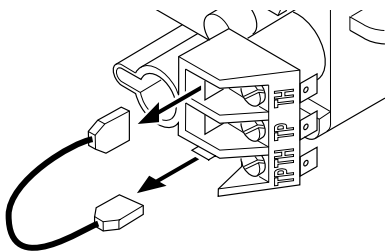

Figure 40 - Disconnecting TH to TPTH Wire
5. Remove the wire that runs from TH to TPTH from the valve (see Figure 40).